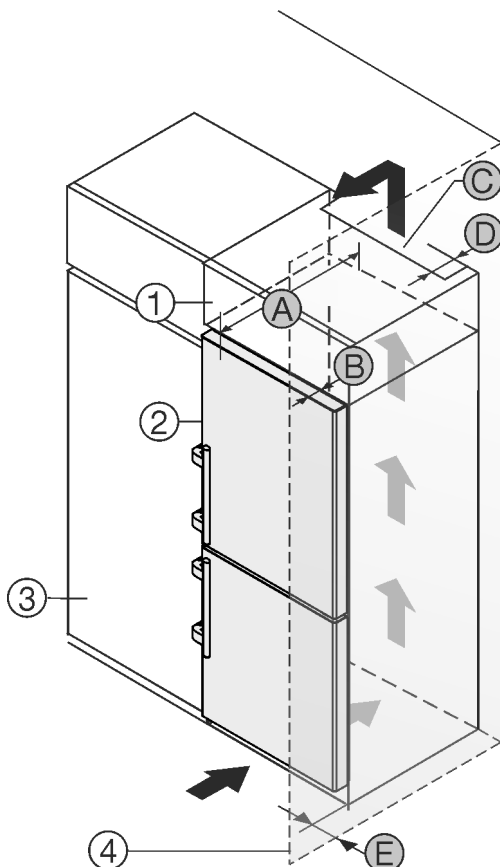

Fig. 2
You can place the appliance directly beside the kitchen cabinet *Fig. 2 (3)*.*
There must be a ventilation shaft at the depth *Fig. 2 (D)* of the back of the top cupboard over the entire width of the top cupboard.*
The ventilation cross-section *Fig. 2 (C)* must be maintained under the ceiling.*
If the appliance is set up with the hinges next to a wall *Fig. 2 (4)*, the distance between the appliance and the wall must be at least 57 mm. This is how far the handle protrudes when the door is open.*
In order to be able to fully open the door, the appliance must protrude by the depth of the door *Fig. 2 (B)* from the front of the kitchen cabinet. The appliance may protrude further depending on the depth of the kitchen cabinets *Fig. 2 (3)* and whether wall spacers are used.*